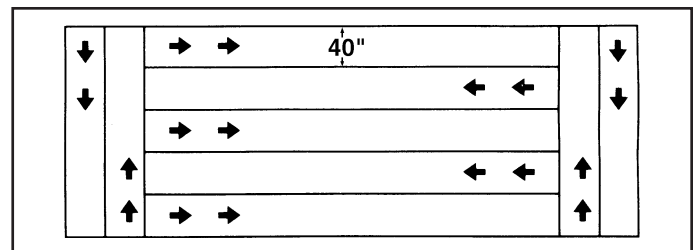

FIGURE 11
4. For easiest application, first apply material across both ends of the area. Two or three passes on each end are sufficient. Then apply material back and forth as shown. Use the end areas for turning around, shutting off the spreader as you enter the end areas and turning the spreader on again as your leave the end areas for your next pass. See figure 11.